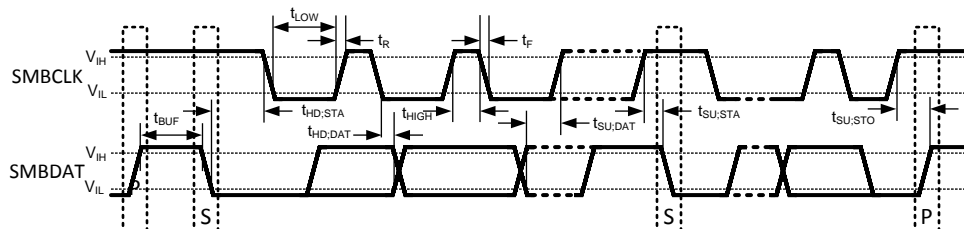

Figure 2. SMBus Communication
- (1) Absolute Maximum Ratings indicate limits beyond which damage to the device may occur. Operating Ratings indicate conditions for which the device is ensured to be functional, but do not ensure specific performance limits. For ensured specifications and test conditions, see the Electrical Characteristics. The ensured specifications apply only for the test conditions listed. Some performance characteristics may degrade when the device is not operated under the listed test conditions. Operation of the device beyond the maximum Operating Ratings is not recommended.
- (2) When the input voltage (V_I) at any pin exceeds the power supplies ($V_I < GND$ or $V_I > V_{DD}$), the current at that pin should be limited to 5 mA. Parasitic components and or ESD protection circuitry are shown in Figure 2 and Table 1 for the LM95241's pins. Care should be taken not to forward bias the parasitic diode, D1, present on pins: D1+, D2+, D1-, D2-. Doing so by more than 50 mV may corrupt the temperature measurements.
- (3) Thermal resistance junction-to-ambient when attached to a printed circuit board with 1oz. foil and no air flow: